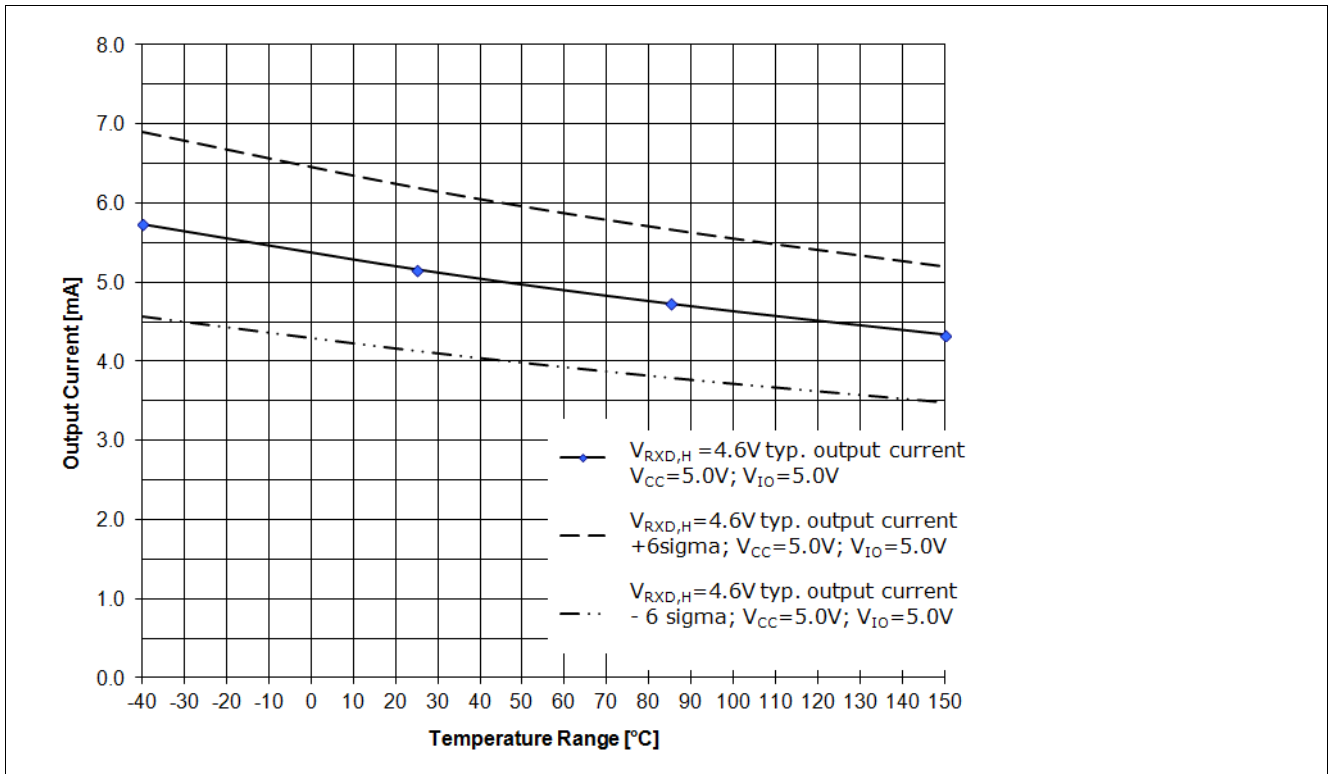
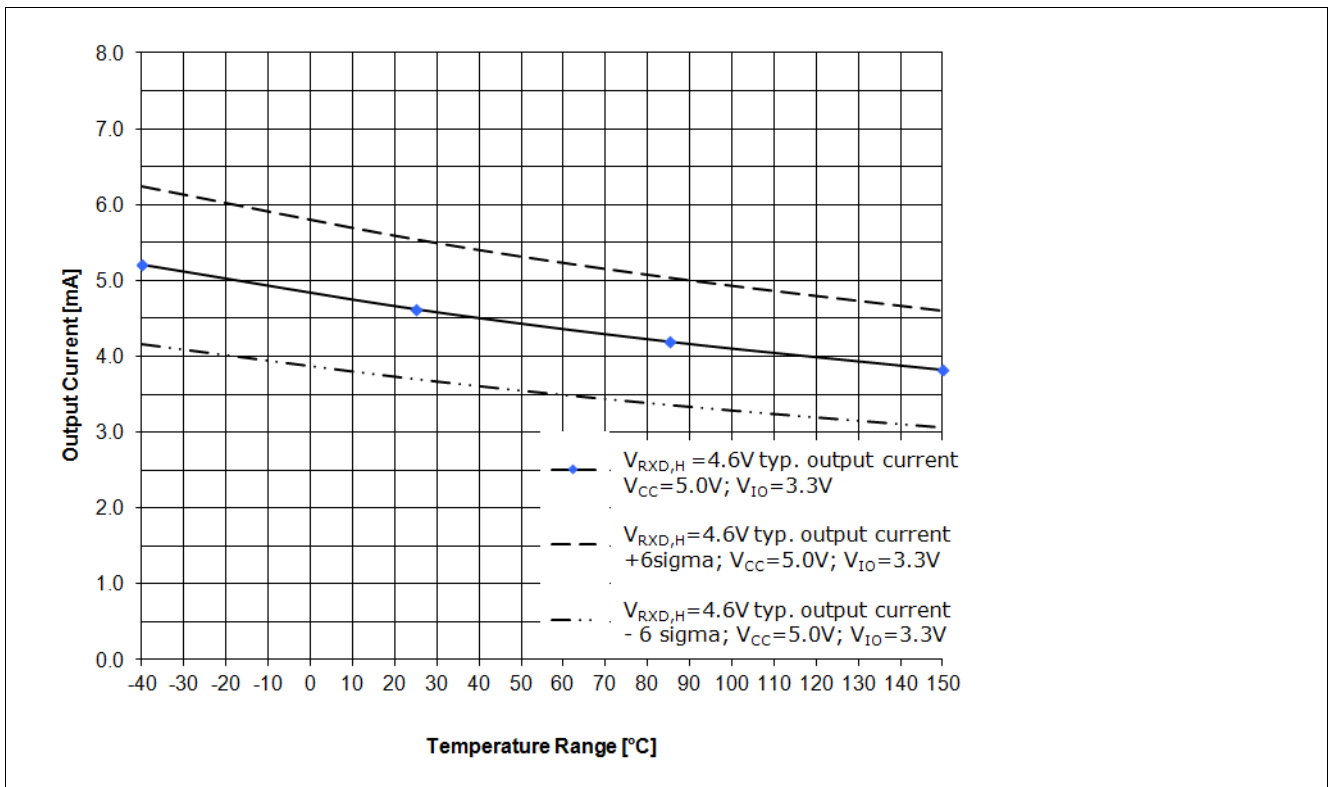

Figure 11 RxD Output driver capability for a logical “High” signal  $V_{RxD,H}=4.6\text{ V}$ ,  $V_{CC}=5.0\text{ V}$ ,  $V_{IO}=5.0\text{ V}$ 1)
Figure 12 RxD Output driver capability for a logical “High” signal  $V_{RxD,H}=4.6\text{ V}$ ,  $V_{CC}=5.0\text{ V}$ ,  $V_{IO}=3.3\text{ V}$ 1)
The diagram in Figure 11 shows the output current capability of the RxD output pin depended on the chip temperature  $T_J$  at a  $V_{IO}$  power supply of 5.0 V. Figure 12 shows the output current capability of the RxD output pin at a  $V_{IO}$  power supply of 3.3 V.
- The curve “ $V_{RxD,H} = 4.6$  V; **typ. output current**;  $V_{CC} = 5.0$  V;  $V_{IO} = 5.0$  V;” displays the typical output current at the RxD output pin of the TLE8250GVIO (see Figure 11).
- The curve “ $V_{RxD,H} = 4.6$  V; **typ. output current + 6 sigma**;  $V_{CC} = 5.0$  V;  $V_{IO} = 5.0$  V;” displays the expected maximum value of the output current at the RxD output pin (see Figure 11).
- The curve “ $V_{RxD,H} = 4.6$  V; **typ. output current - 6 sigma**;  $V_{CC} = 5.0$  V;  $V_{IO} = 5.0$  V;” displays the expected minimum value of the output current at the RxD output pin (see Figure 11).
- The curve “ $V_{RxD,H} = 4.6$  V; **typ. output current**;  $V_{CC} = 5.0$  V;  $V_{IO} = 3.3$  V;” displays the typical output current at the RxD output pin of the TLE8250GVIO (see Figure 12).
- The curve “ $V_{RxD,H} = 4.6$  V; **typ. output current + 6 sigma**;  $V_{CC} = 5.0$  V;  $V_{IO} = 3.3$  V;” displays the expected maximum value of the output current at the RxD output pin (see Figure 12).
- The curve “ $V_{RxD,H} = 4.6$  V; **typ. output current - 6 sigma**;  $V_{CC} = 5.0$  V;  $V_{IO} = 3.3$  V;” displays the expected minimum value of the output current at the RxD output pin (see Figure 12).